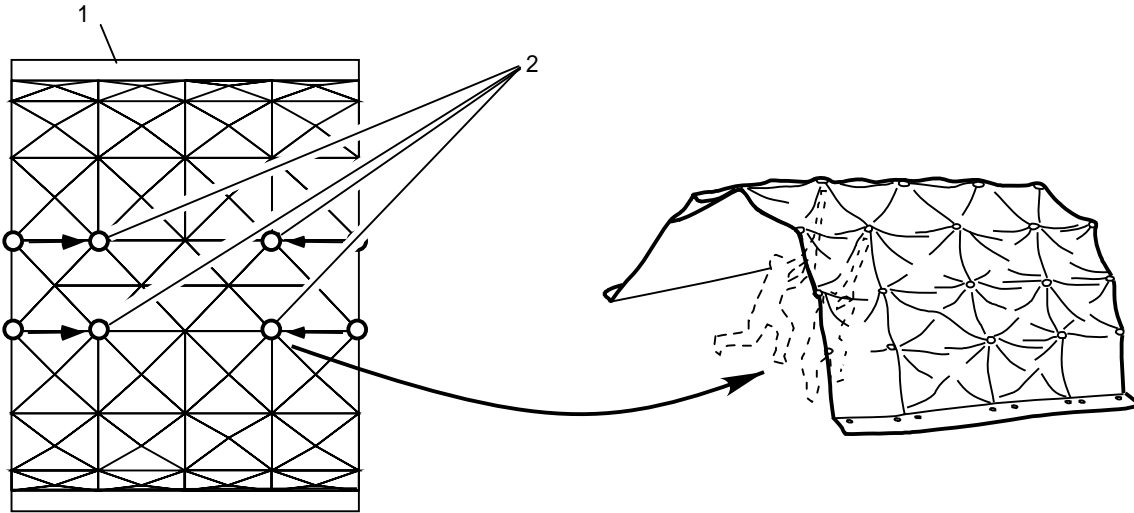

Figure 2-5. Personnel Positioned for Final Lift
1. With smaller models, the shelter is now ready to push to full height. With larger shelters, the four poles must be moved inward towards a second set of four red flags (2), one quad closer to the center of the shelter. People should alternately move inward to this new push point as shown in Figure 2-5. This action will evenly distribute the weight of the shelter (1).